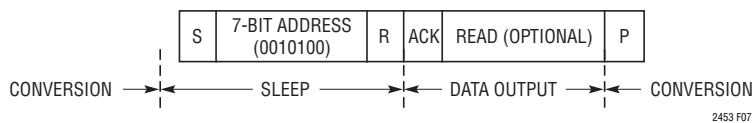

Figure 7. Start a New Conversion without Reading Old Conversion Result
It is possible to start a new conversion without reading the old result, as shown in Figure 7. Following a valid 7-bit address, a read request (R) bit, and a valid ACK, a STOP command will start a new conversion.